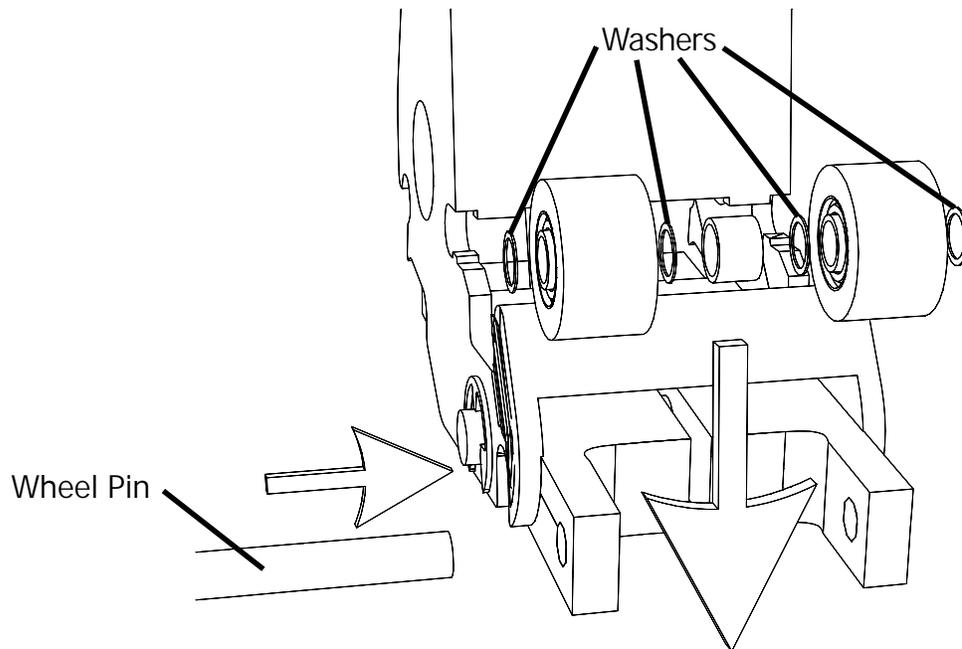

Fig. 19 - Place washers on either side of the wheel before inserting the pin
- 1) The washers will be installed on either side of the wheels (See Fig. 19).